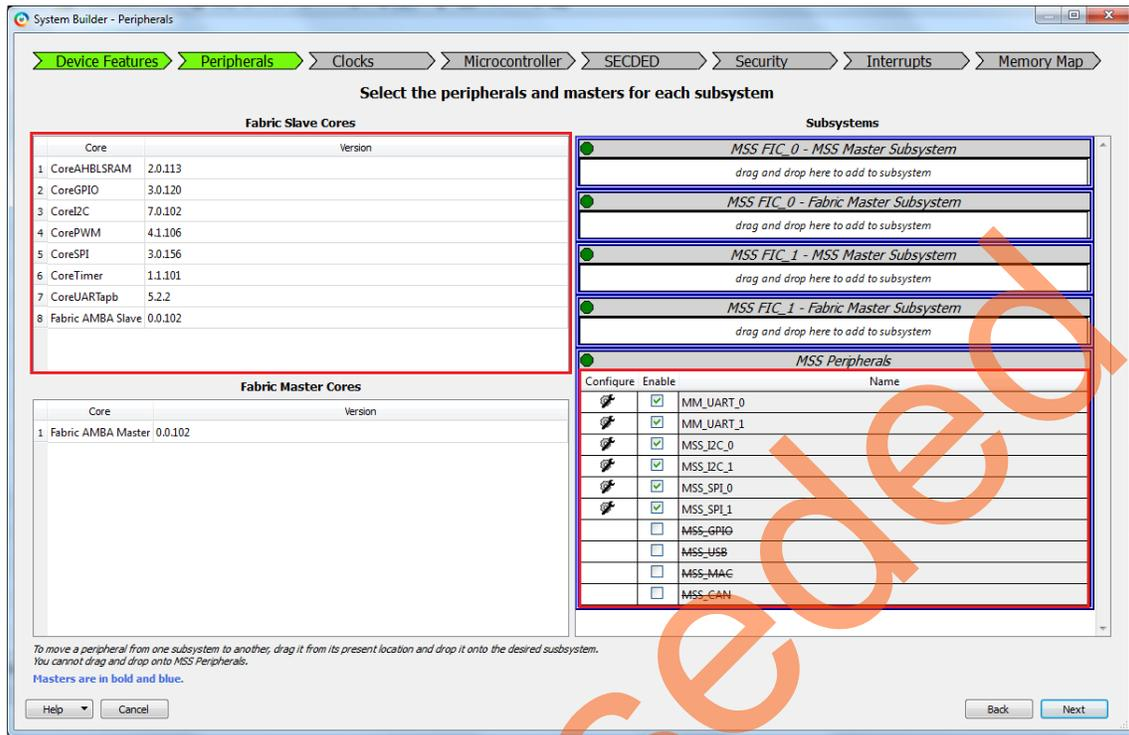

Figure 5 • SmartFusion2 System Builder Peripherals
7. Select **Next**. **System Builder- Peripherals** page is displayed, as shown in Figure 5.